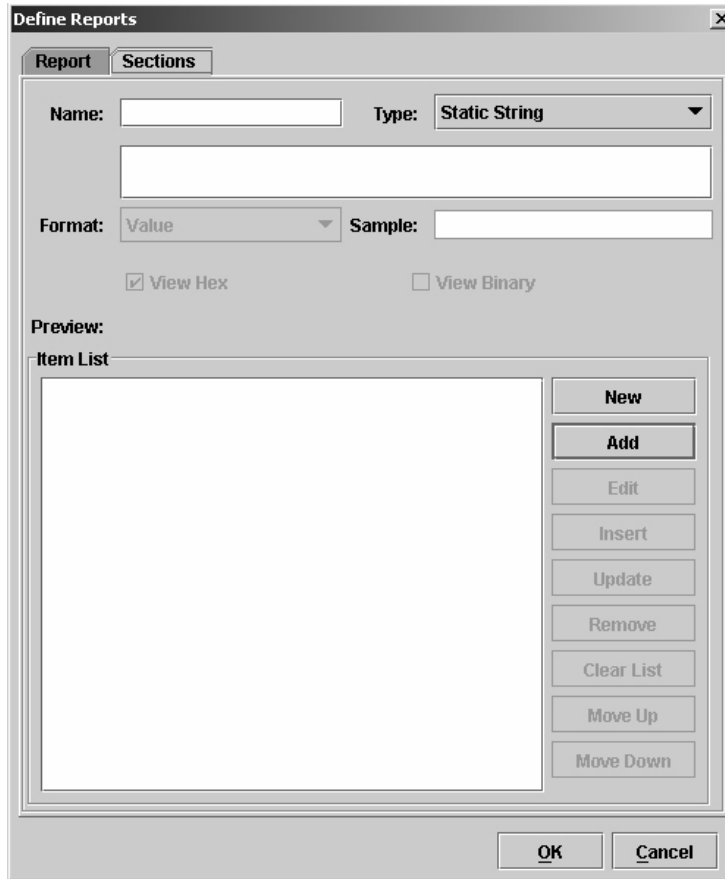

Figure 35. The Sections Tab of the Define Reports Dialog Box
2. Click the **Sections** tab (Figure 35). We will use this tab to define all sections needed to make the full report. The printer front panel LCD is has a maximum of 16 characters available per line to display the message.